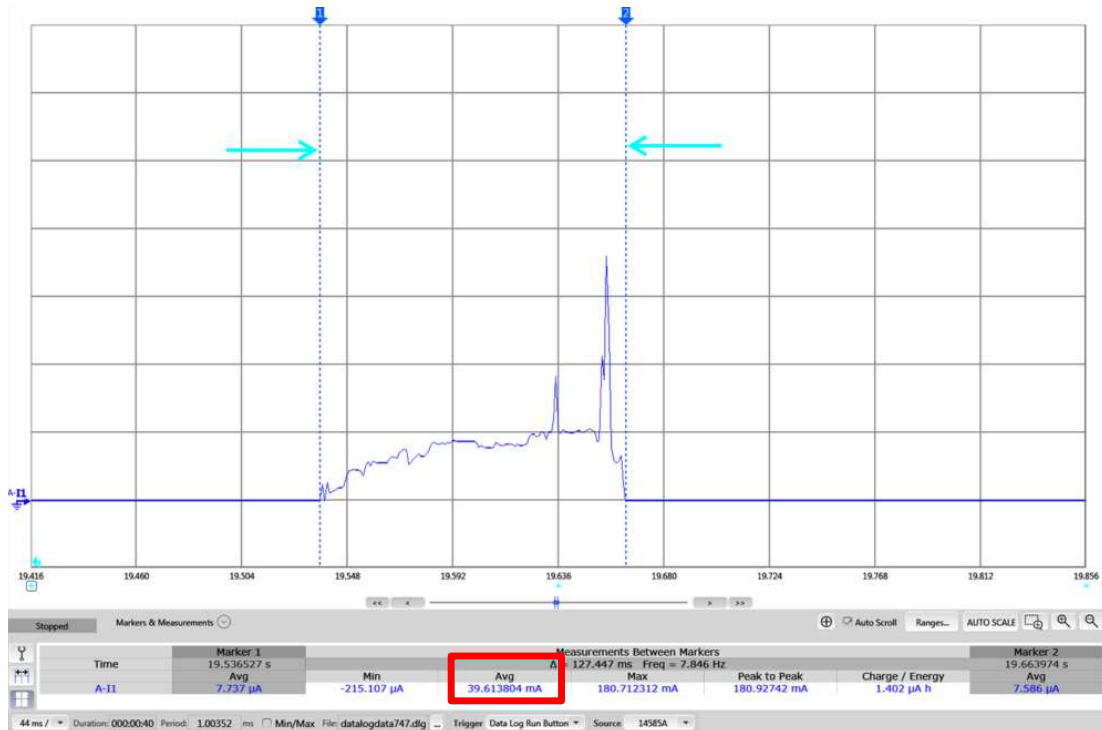

Figure 12. Average Current Measurement With DC Power Analyzer
- When the current measurement completes, position the markers to select the waveform to be calculated. The result should show the average current consumption of the sample period located between the two markers. Figure 12 shows an example.